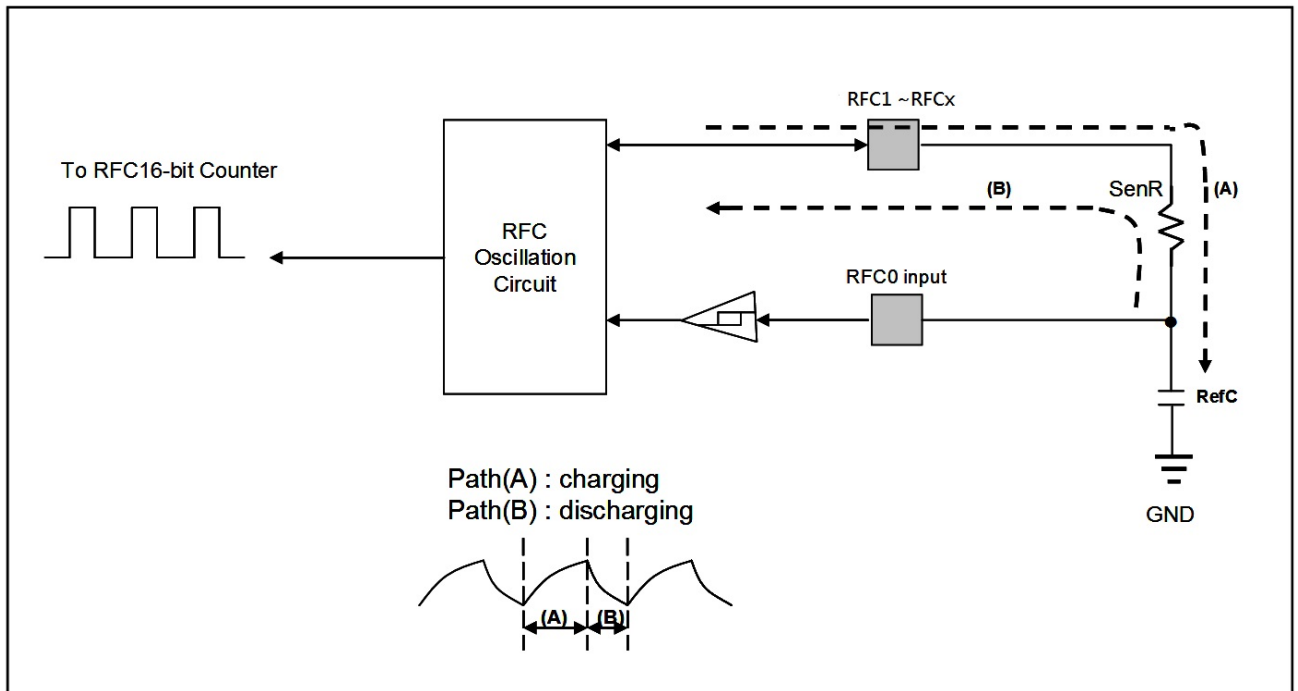

Fig. 3: Charge / discharge mechanism of R-Type
The charging/discharging mechanism of R-Type is shown as Fig. 3. Before enabling the RC oscillation, one of RFC1~ RFC9 will be selected charging Path(A) comes from the selected channel and through its correspondent resistance SenR to RefC, the voltage level of RefC will be charged to high level, and then, the RC oscillator will turn to discharge Path(B).